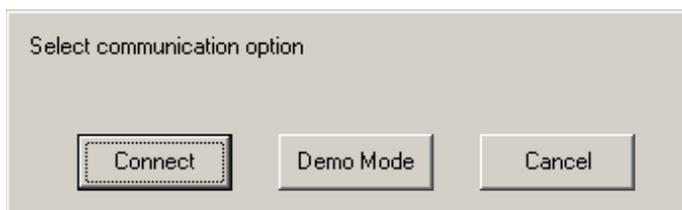

Figure 5-1: The Select communication option dialog box.
2. Select **DeeSoft** from the Windows *Start* menu under Dynex Technologies. The *Select communication option* dialog box will be displayed (Figure 5-1).